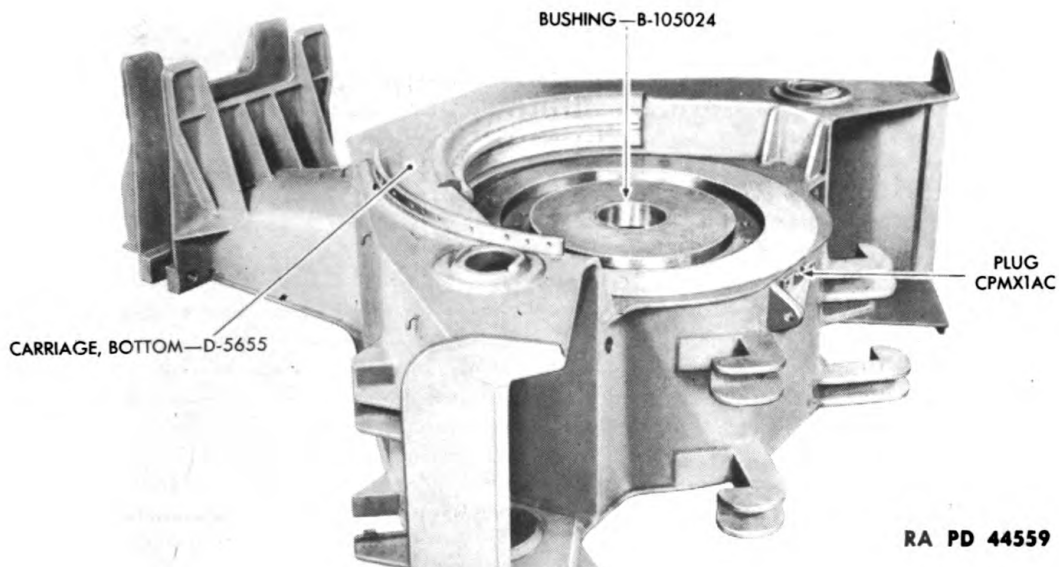

Figure 207—Bottom Carriage Assembly—Rear View
e. Remove plug CPMX1AC from rear of bottom carriage (fig. 207). The bottom carriage is now completely disassembled.